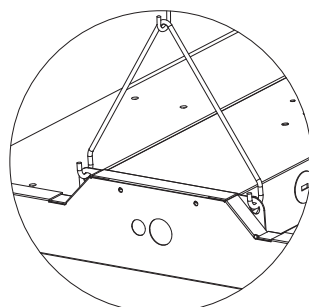

Fig. A-2
2. Install both V-hooks onto each side of the fixture body **(Figure A-2)**